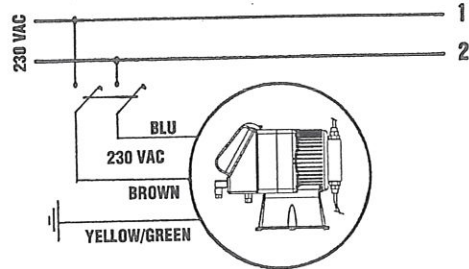

Fig. 4
- b. - Carefully observe the regulations in force in the various countries as regards electrical installations (Fig.4) When the supply cable is devoid of a plug, the equipment should be connected to the supply mains by means of a single-pole circuit breaker having a minimum distance of 3 mm between the contacts. Before accessing any of the electrical parts, make sure that all the supply circuits are open.